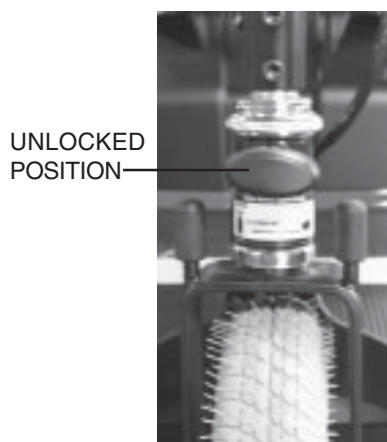
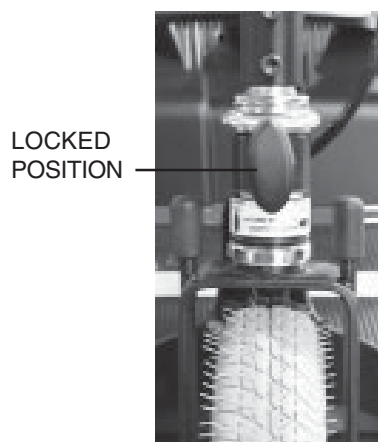

Figure 12. Tiller Lock Knob (Unlocked)
Figure 12A. Tiller Lock Knob (Locked)
1. From the unlocked position (see figure 12), lock the front wheel by pushing the tiller lock knob in and turning it clockwise 90°. See figure 12A.
9. Unlock the front wheel by turning the tiller lock knob 90° anticlockwise. See figure 12.